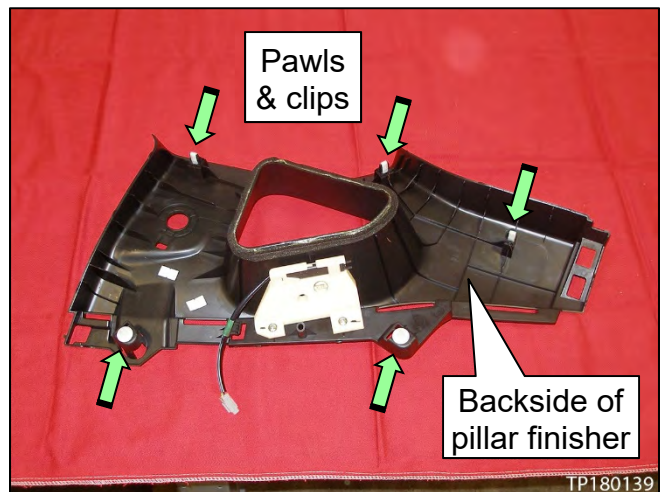

Figure 35
- Pawl and clip locations are shown in Figure 35. Clip locations are the same on the LH & RH rear pillar finishers.